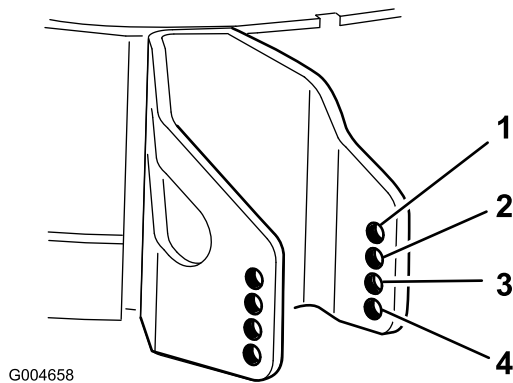

Figure 24
4. Select a hole so the anti-scalp roller is positioned to the nearest corresponding height-of-cut desired (Figure 24).